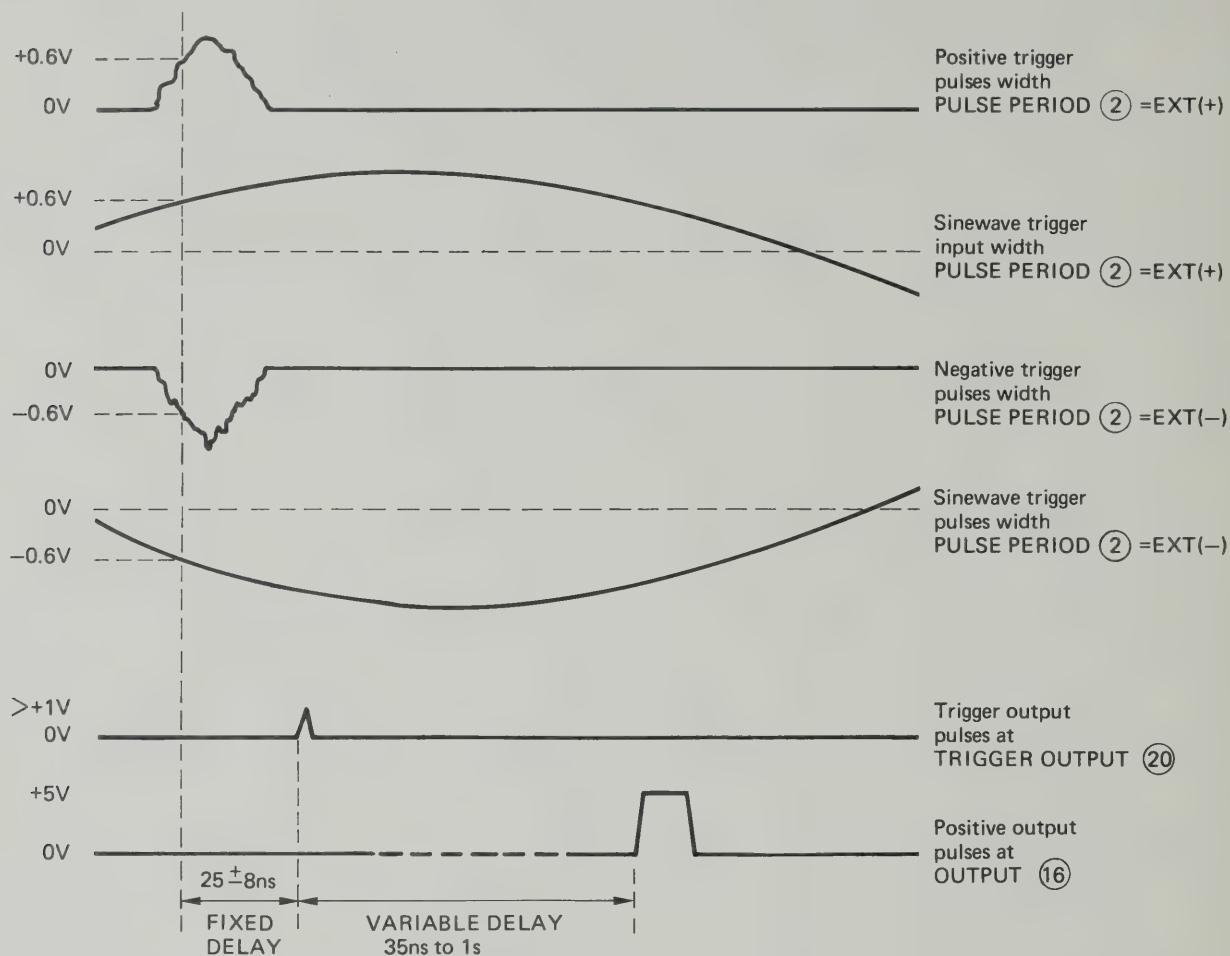

Figure 3-10. Output pulses in normal external trigger mode
3-22 The output pulses should appear at the TRIGGER OUTPUT (20) and OUTPUT (16) connectors as shown in Figure 3-10 according to the